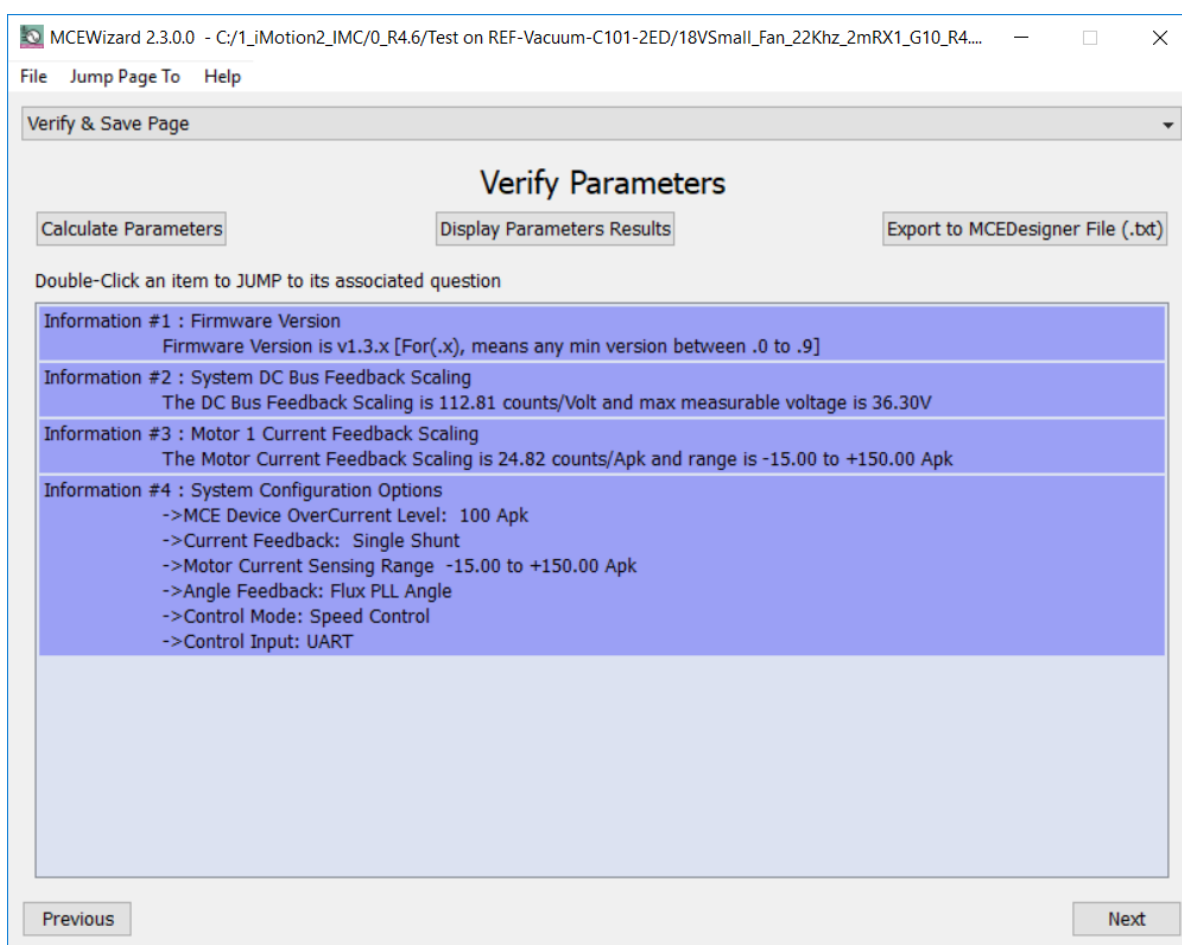

Figure 10 MCEWizard Verify and Save page
3. After system and operating parameters are set, go to the "Verify & Save Page" and click on "Calculate" button. If no errors are reported, then save the drive parameter set into your project directory by clicking "Export to Designer file (.txt)" (Figure 10); if an error is detected, double-click on the error message (highlighted in **RED**) and adjust the related parameter. Saved drive system parameter file will be later used by the MCEDesigner in step 9.